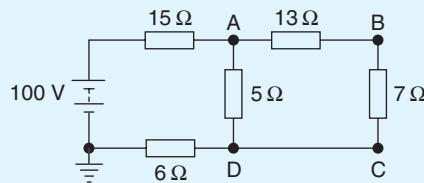

Figure 5.37
1. For the circuit of Fig. 5.37, calculate (a) the absolute voltage at points A, B and C, (b) the voltage at A relative to B and C, and (c) the voltage at D relative to B and A.